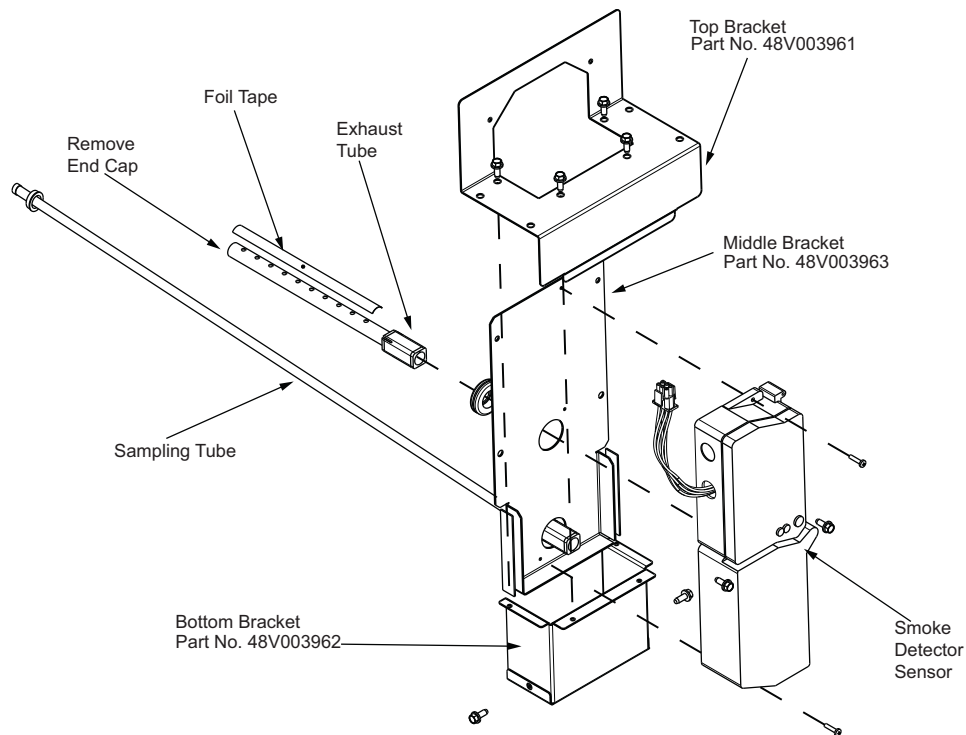

Fig. 12 — Smoke Detector Bracket Assembly (Compact Chassis with Vertical Return)
11. Remove the end cap from the exhaust tube supplied with the accessory. Cover the exhaust tube holes with foil tape as required. Insert the exhaust tube into the smoke detector sensor module to allow airflow through the sensor as shown in Fig. 12.
12. Secure the smoke detector to the mounting bracket using the provided self-tapping screws. See Fig. 12 for assembly.